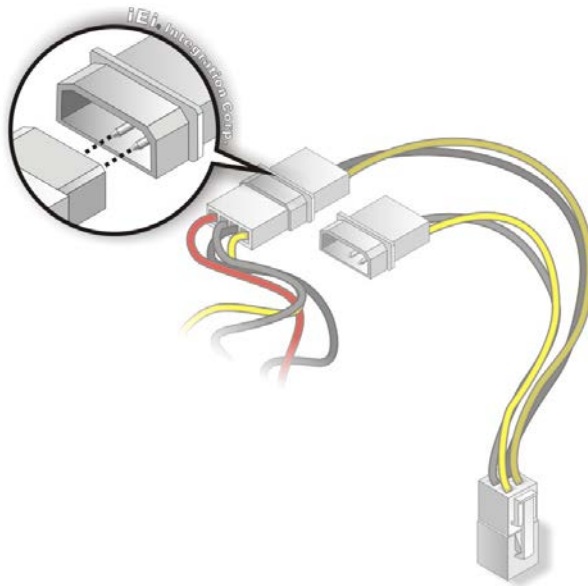

Figure 4-20: Connect Power Cable to Power Supply
Step 3: Connect Power Cable to Power Supply. Connect one of the 4-pin (1x4) Molex type power cable connectors to an AT power supply. See Figure 4-20.